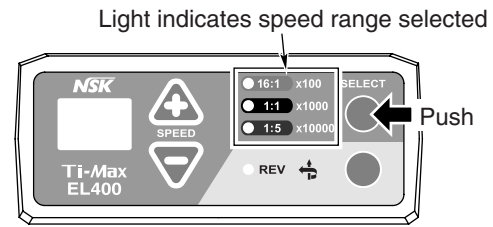

Fig.7
- ① Insert the AC adapter cord plug into wall outlet and turn the power switch on. When you turn on the power switch, lamps and speed indicator will light.
- ② Push the handpiece selector to indicate the speed of the attachment you will use. (Fig. 7)